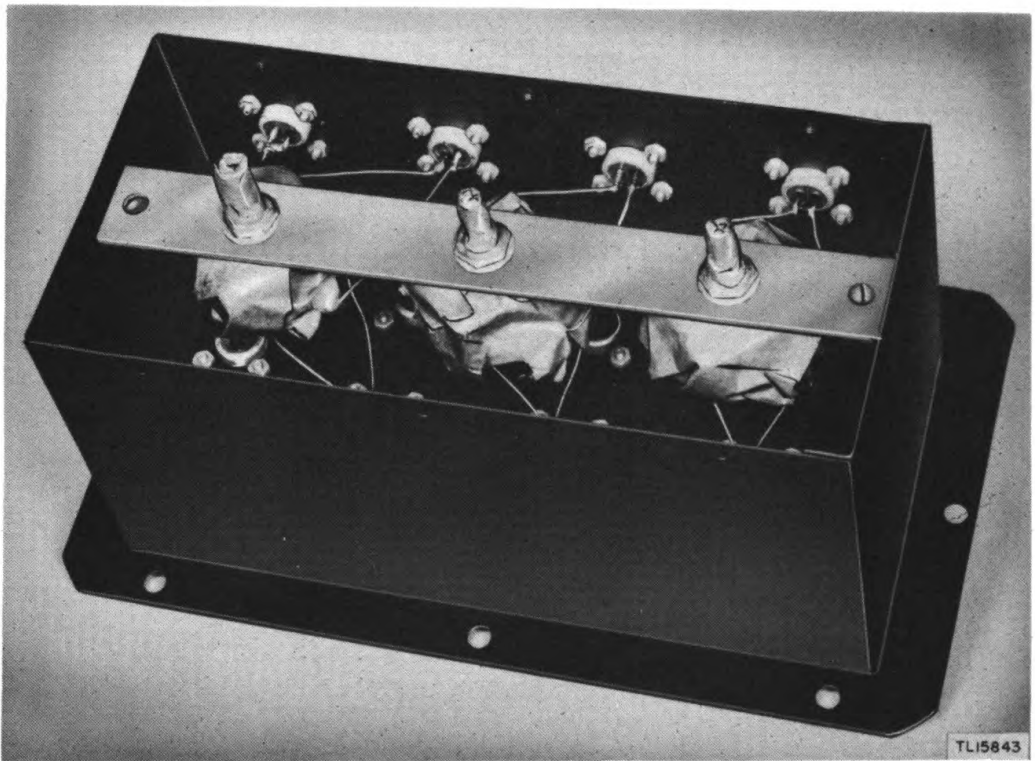

Figure 21. Control Box BC-1278-A, switches masked for moistureproofing and fungiproofing.
(3) MASKING (figs. 21 and 22).
(4) DRYING. Bake the unit by placing it in an oven or under heat lamps for 2 to 3 hours at 160° F.
(5) VARNISHING.